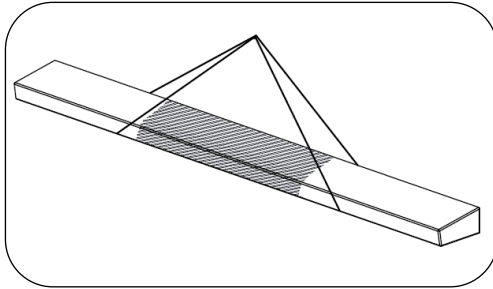
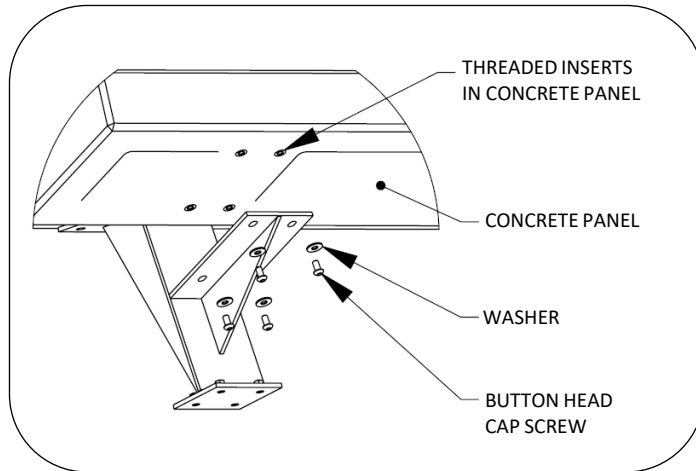
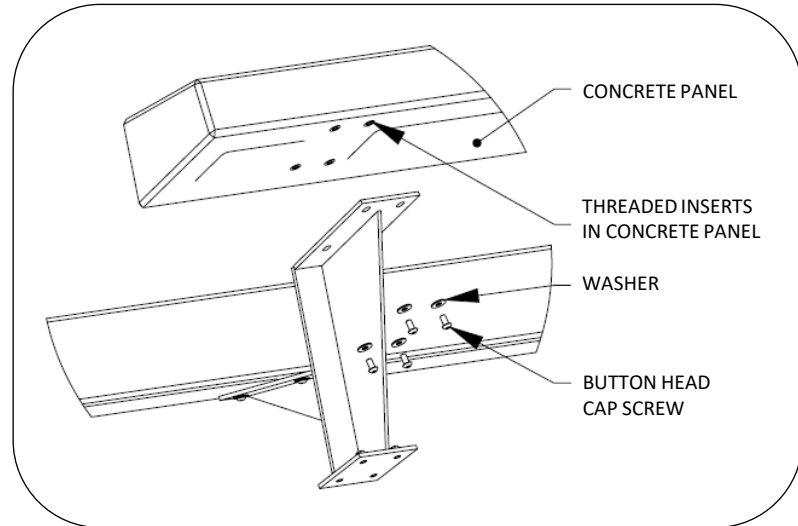

Fig. 7 – Lift concrete panel, correct strap spacing
Fig. 9 – Install concrete seat panel
Fig. 10 – Install concrete back panel
7. Install concrete seat panel. Refer to Figs. 7 and 8 for proper lifting strap techniques. Two straps should be used, placed a minimum of 60in (1.5m) apart. Install hardware as shown in Fig. 9. Do not overtighten.
8. Install concrete back panel. Refer to Figs. 7 and 8 for proper lifting strap techniques. Two straps should be used, placed a minimum of 60in (1.5m) apart. Install hardware as shown in Fig. 10. Do not overtighten.